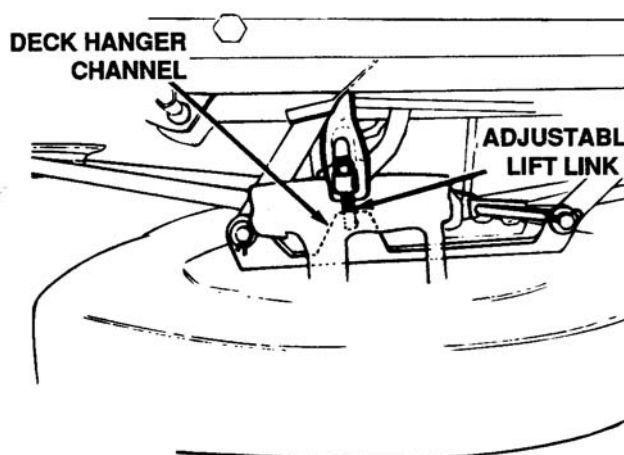

Figure 12-44. Deck Leveling Adjustable Lift Link
3. Disconnect the bottom of the adjustable lift link from the deck, on the left side of the unit, by removing the hairpin clip and flat washer. See Figure 12-44.